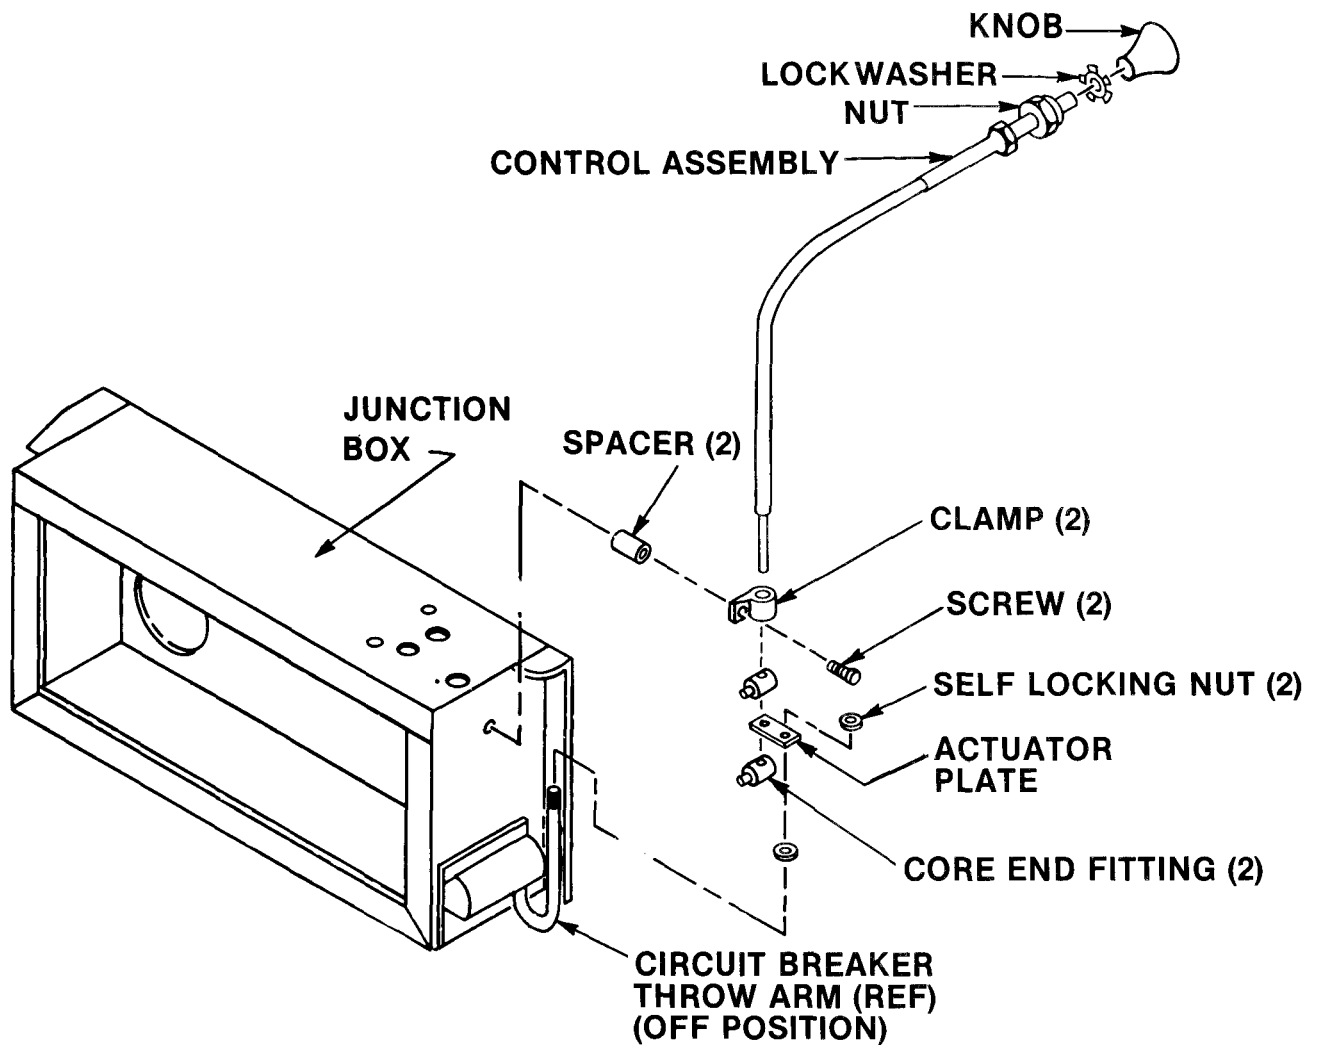

Figure 4-25. Reset Control
- (1) Using screwdriver, mount and secure control panel to junction box with four screws.
- (2) Slide capacitor C4 into two mounting clamps on junction box.
- (3) With screwdriver, tighten two screws on two capacitor mounting clamps.
- (4) Place junction box far enough in unit to attach ground wires.
(5) Using wrench and screwdriver, secure ground wires on grounding stud with two washers and nut.
(6) Using screwdriver, secure junction box cover to junction box with four panel fastener screws.
(7) Position loop clamps on cable assembly.
(8) Install lower end fitting on cable as shown in figure 4-25.
(9) Using screwdriver, secure loop clamps to junction box.
(10) Connect electrical plugs P4, P8 and P10.
(11) Position junction box in unit.
(12) Using screwdriver, secure four panel fastener screws in flanges of junction box.